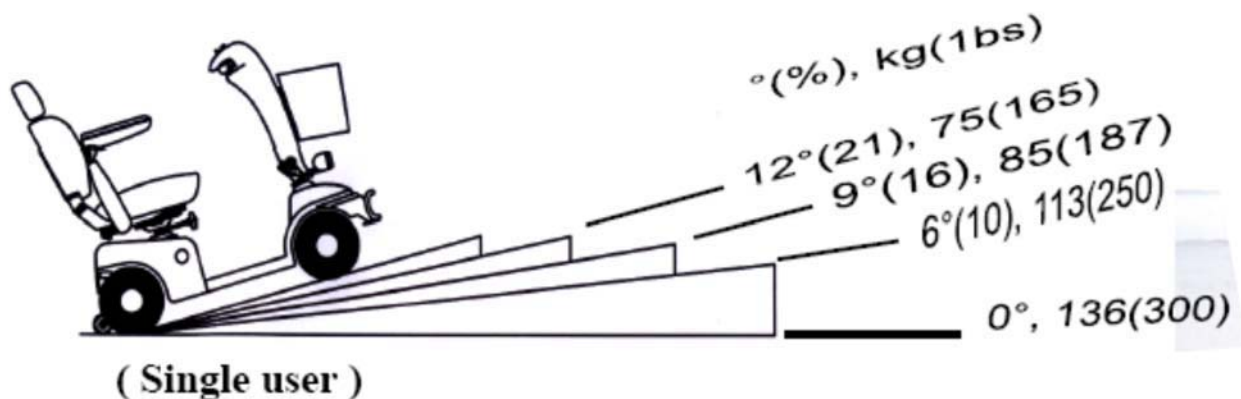

Figure 5
| Safe Climbing Angle (Maximum Single User Weight) | % (°) | 10 (6) (Fig 5) |